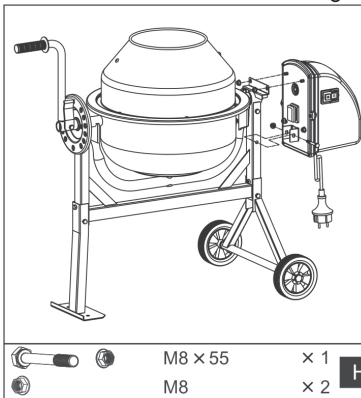

Fig.12
8. In the last assembly step you assemble the drive. To do this, align the teeth and slide the drive over the shaft. Screw the motor housing to the frame. Use nuts marked M8 (H), Fig.12.